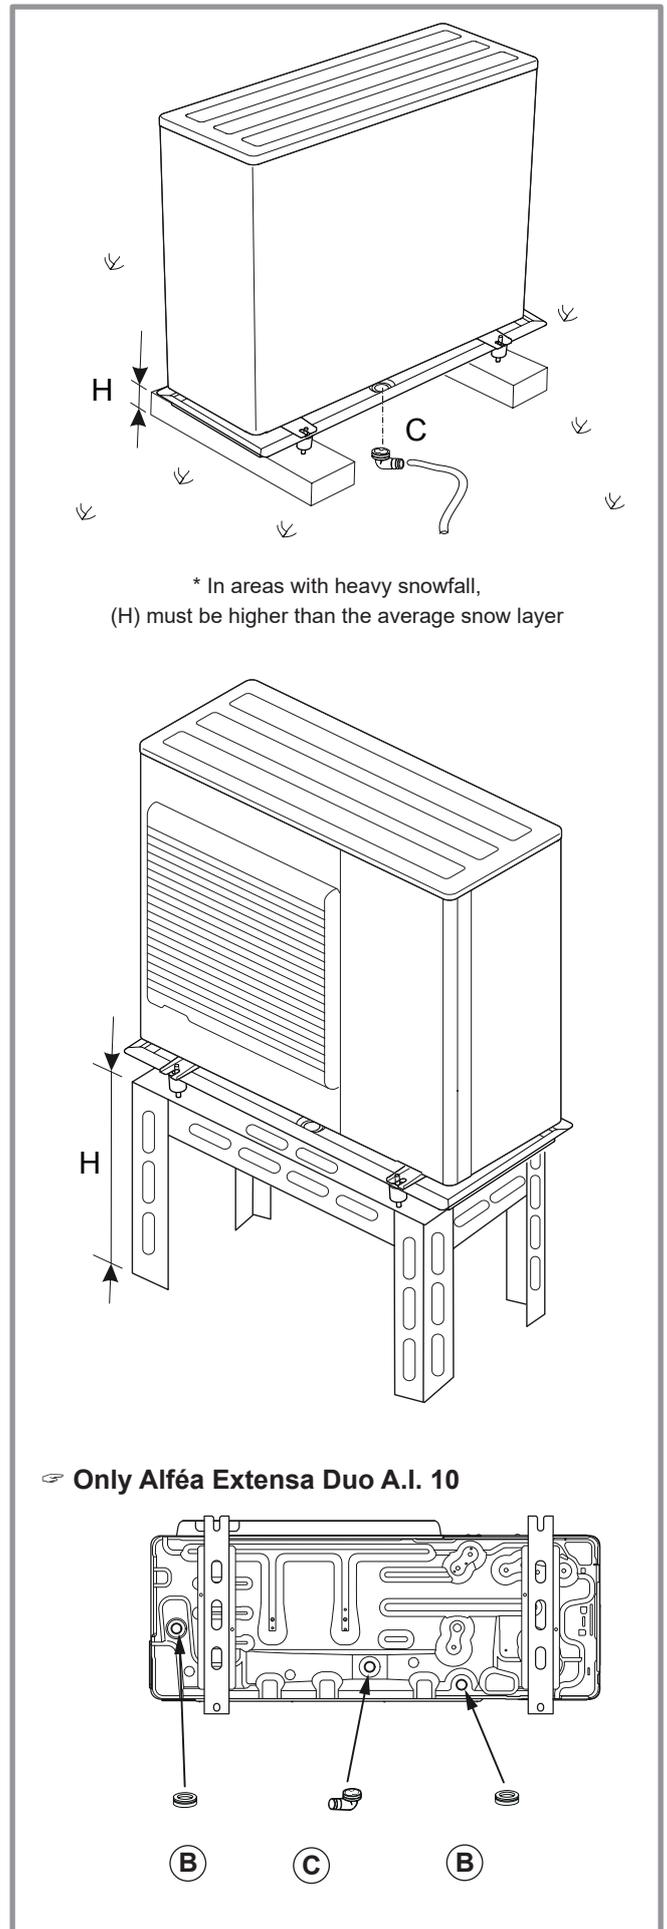

figure 14 - Installation of the outdoor unit
- Water may flow out of the outdoor unit when it is operating. Do not install the unit on a paved terrace; choose a well-drained location (e.g. gravel or sand). If installation is carried out in an area where the temperature stays below 0°C for long periods, check that the presence of ice does not present any danger. A drainage pipe can also be connected to the outdoor unit (figure 14).
The outdoor unit must be raised at least 50 mm above ground level. In areas prone to snow, this height should be increased but should not exceed 1.5 m (figure 14).
(see figure 14)